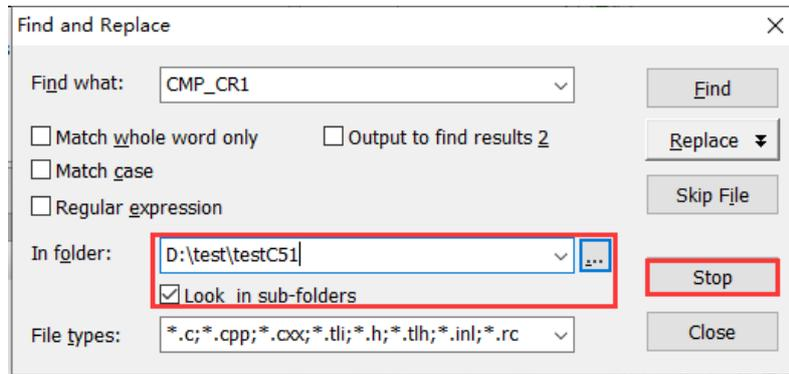
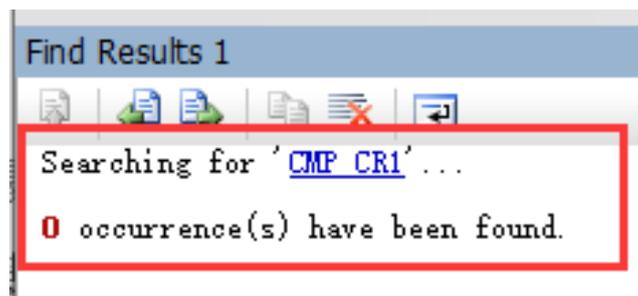

Figure 3-12
Figure 3-13
19. Find and replace: click  or press Ctrl+F or Ctrl+H to implement the feature, as shown in Figure 3-12. The search results are shown in Figure 3-13.